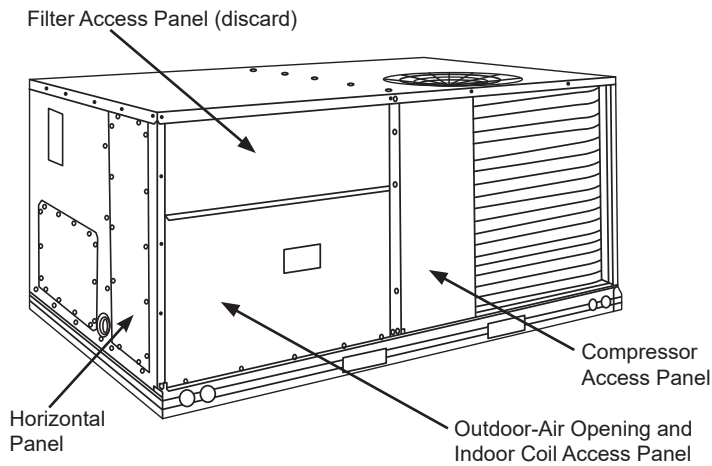

Figure 1 - Typical Access Panel Locations
Step 2: Remove the existing unit filter access panel and discard. Raise the panel and swing the bottom outward. The panel is now disengaged from the track and can be removed. See **Figure 1**. Remove the horizontal panel on unit. See **Figure 1**.
Step 3: Remove the indoor coil access panel discard. See **Figure 1**.